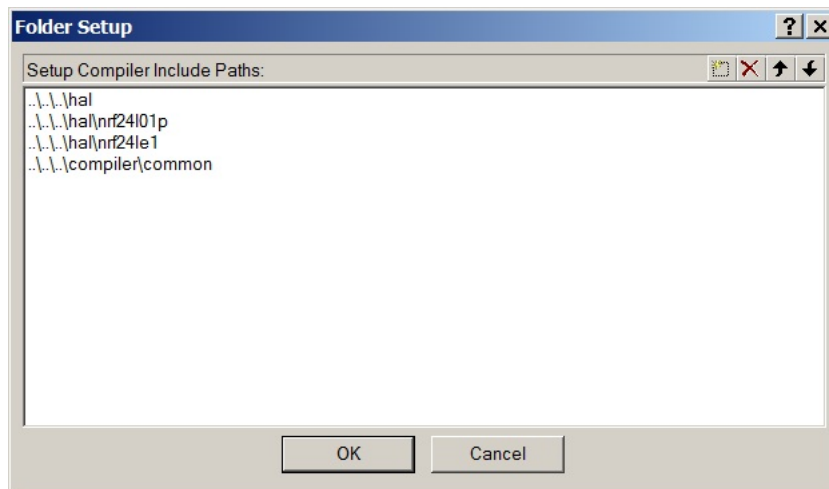

Figure 11. Confirm by pressing OK
- The folders you now have included contain all the HAL files that you will use later to configure the various hardware modules inside the nRF24LE1. If you are developing with another device, you will need to include the hardware specific files for that device. All devices supported by the HAL have their own folders. Select **OK** in the “Folder setup” dialog as shown in Figure 11. when done.